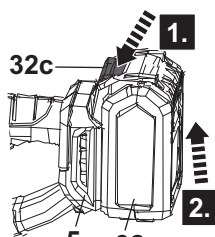

Fig. 18
2. Press the release button (32c) and remove the battery pack (32) from the battery docking port (5) (Fig. 18).